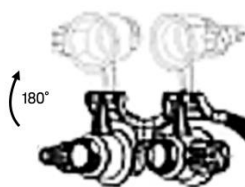

Fig. 6
5. Adjust the angle of the lens upwards and downwards on the bracket until it is in the optimal position. Its full range is 180° (Fig. 6).